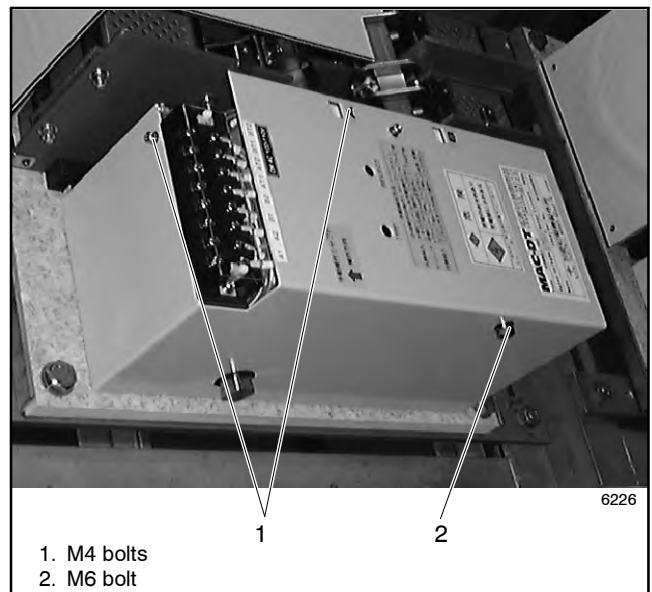

Figure 7-28 Removing the Cover
1. Remove the M4 bolts and the M6 bolt. Remove the cover from the mechanical unit. See Figure 7-28.